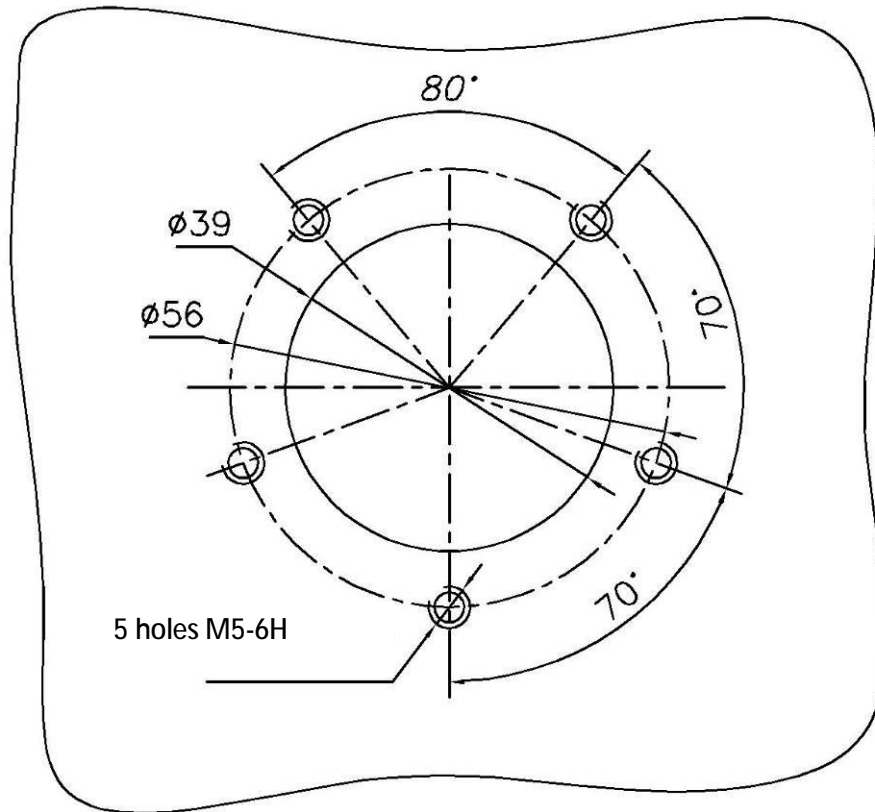

Fig. 9. Scheme of the holes for the mounting plate
** Study carefully the scheme of the mounting openings for the standard fuel sensor and compare with the DUT-E installation scheme (See Figure 9).*
- b) Mark the place and drill the holes according to the following scheme (See Figure 9);